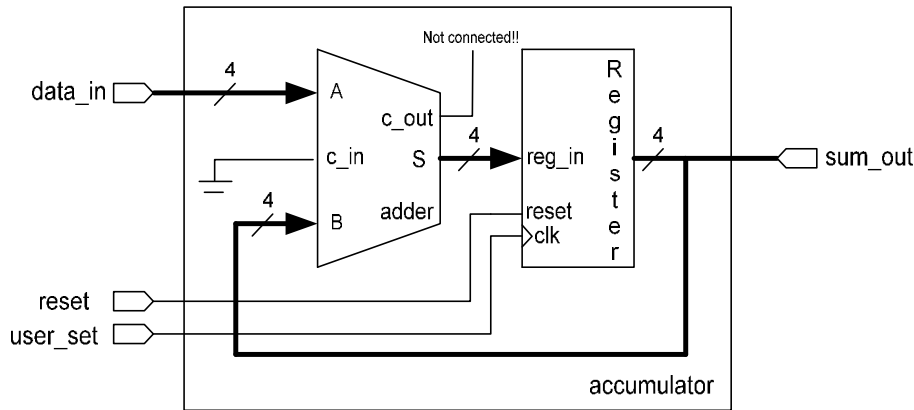

Figure 16; Accumulator block diagram.
2. Analyzing `four_bit_reg.vhd` description; Open the file `four_bit_reg.vhd` by double clicking on it under **Sources in Project** window. This file describes the “*register*” block shown in figure 16. When the input “*reset*” is high, the output of the block is “0000”. If a raising edge is detected in the input signal “*clk*”, the block will read its input “*reg\_in*” and write it
3. Creating a new source file; Following the same procedure as in step 1,2 and 3, go to **Project** → **New Source**, select **VHDL Module** and enter the name “accumulator”. Define the VHDL source as a structural architecture and declare the inputs and outputs of the accumulator following the block diagram in figure 16. Click **Next** → **Finish**. The result will be a new source file where the skeleton is ready for you to fill it out with the description of the circuit.
4. Declaring components; Following block diagram in figure 16, you will need two kind of components; a 4-bit full adder and a 4-bit register (the block that you added to your project through the file *four\_bit\_register.vhd* . Remember that a component declaration goes between “*architecture structural of accumulator is*” line and the “*begin*” line.
5. Connecting components; Component instantiation (section where you describe the connections between components) goes between the lines “*begin*” and “*end structural*” in the VHDL description of the system. Follow the logic diagram in figure 16 to describe the connections between the components and inputs/outputs of the accumulator.
6. Synthesize the project; Highlight the file accumulator.vhd in the **Sources in Project** window, expand **Implement Design** and double click on **Synthesize** in the **Processes for Source** window. Make sure there are no errors. Note that you will get warnings due to the “no connection” of the signal “c\_out” in figure 16.